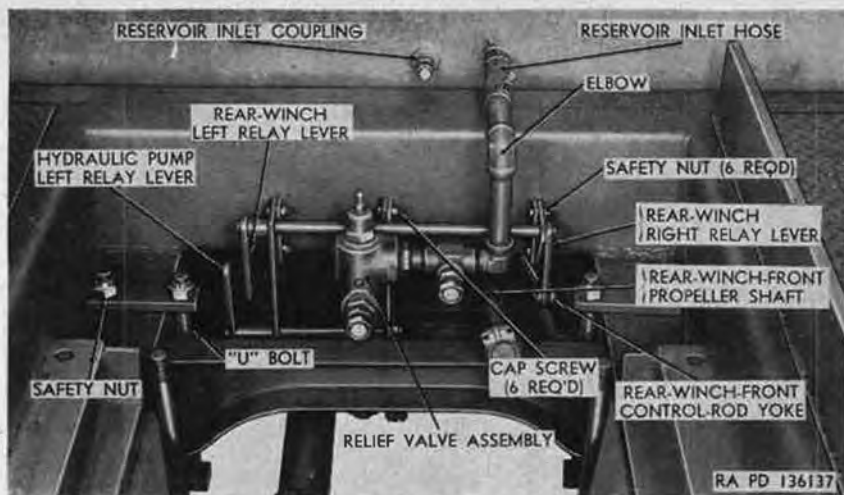
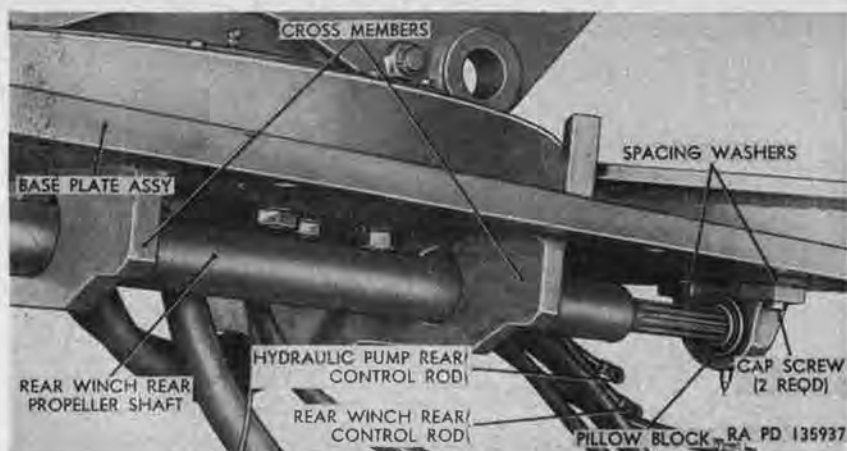

Figure 275. Rear view of forward end of wrecker body with crane removed M62.
Figure 278. Right side view of underside of crane base plate removed from vehicle M62.
- (2) *Winch-drive.* Power for operating the winch is supplied by the truck engine through a power-take-off (par. 208a(4)), which is connected by a propeller shaft to the power divider (par. 268a(4)). A forward propeller shaft (fig. 275) and a rear propeller shaft (fig. 276), connected by a universal joint which is supported by a pillow block (M, fig. 277), extend from the power divider to the bearing assembly (fig. 276) bolted to the rear of the wrecker body. A drive sprocket secured to the rear end of the bearing assembly shaft is connected by a drive chain to the driven sprocket secured to the front end of the winch drive shaft. The driven sprocket is secured to the drive shaft by a shear pin which prevents damage to the winch resulting from overloading.
- (4) *Control linkage.* The rear winch control linkage is comprised of the winch shift lever (fig. 276), rear control rod (fig. 278), relay levers (fig. 275), and front control rod. The rear end of the rear control rod is connected to the lower end of the winch shift lever by a yoke and pin. The front end of the rear control rod is connected to the left relay lever (fig. 275) by a yoke and pin. The rear end of the front control rod is connected to the right relay lever (P, fig. 277) by a yoke and pin. The front end of the front control rod
- (1) Disconnect front propeller-shaft front universal joint from yoke on power-divider winch output shaft (par. 211a(1)).
- (2) Pull propeller shaft toward front of vehicle, removing rear universal joint with slip yoke assembly from front (splined) end of rear propeller shaft (fig. 278).
- (3) Disconnect front propeller-shaft rear universal joint from rear propeller shaft slip yoke (par. 211a(1)).
- (4) Remove universal joint at each end of front propeller shaft (par. 211a(3)).
- (1) Install universal joint at each end of front propeller shaft (par. 211b(1), (2), and (3)).
- (2) Attach rear propeller shaft slip yoke to front propeller-shaft rear universal joint (par. 211b(4) and (5)).
- (3) Slide rear propeller shaft slip yoke, with front propeller shaft attached, on front (splined) end of rear propeller shaft (fig. 278).
- (4) Connect front propeller-shaft front universal joint to yoke on power-divider winch output shaft (par. 211b(4) and (5)).
- (1) Disconnect front propeller-shaft rear universal joint from slip yoke on front (splined) end of rear propeller shaft (par. 211a(1)).
- (2) Slide slip yoke from front end of rear propeller shaft (fig. 278).
- (3) Remove two cap screws (fig. 278) securing pillow block to underside of base plate, and remove spacing washers from between base plate and pillow block.
- (4) Loosen setscrew securing pillow-block-bearing inner race to rear propeller shaft, and slide pillow block forward and remove from shaft.
- (1) Slide pillow block (fig. 278) on front (splined) end of rear propeller shaft, and align mounting holes with holes in underside of base plate.
- (2) Place spacing washers between pillow block and base plate, and secure pillow block to underside of base plate with two cap screws.
- (3) Tighten setscrew in pillow-block-bearing inner race to secure race to shaft.
- (4) Slide slip yoke on front end of rear propeller shaft, and connect front propeller-shaft rear universal joint to slip yoke (par. 211b(4) and (5)).